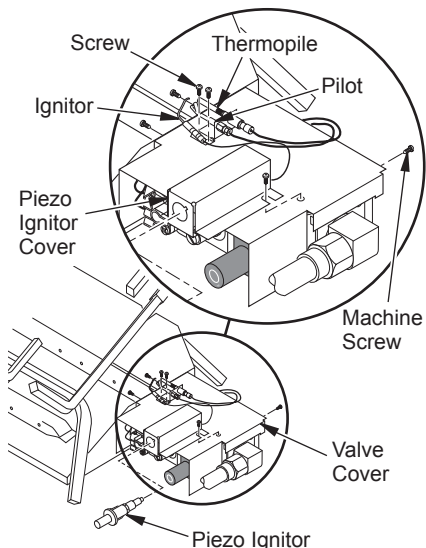

Figure 10 - Installing Thermocouple, Pilot, and Piezo Ignitor Cover (Valve May Vary from Illustration)
13. Install thermocouple, pilot, and piezo ignitor cover onto valve cover as shown in Figure 10. Use the provided screws.